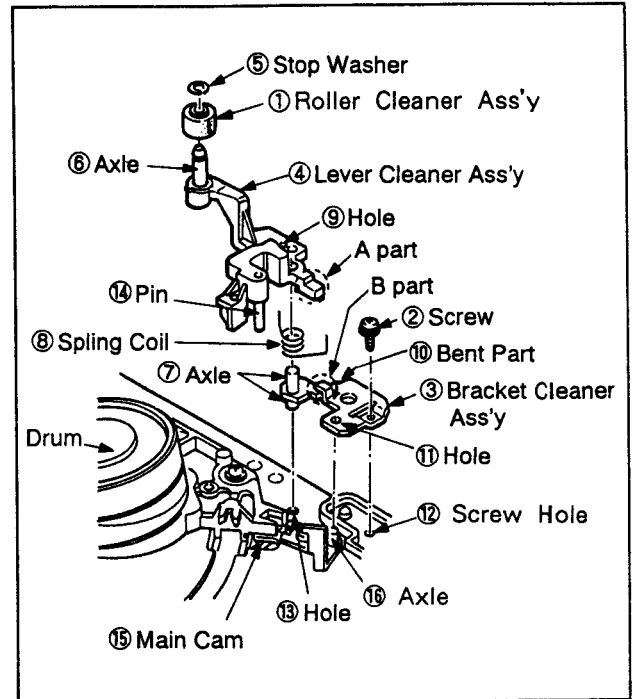
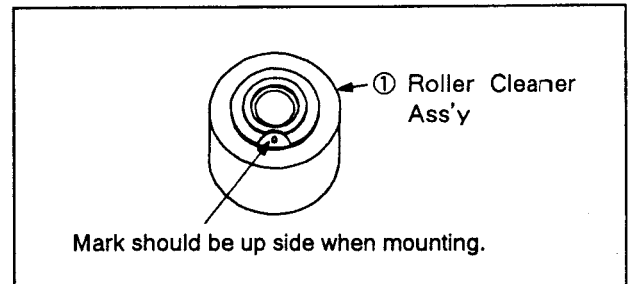
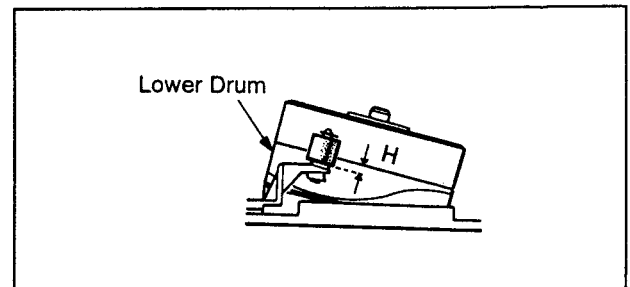

Fig. 4-13-1
Fig. 4-13-2
Fig. 4-13-3
5-13. AUTO HEAD CLEANER MECHANISM (See Fig. 4-13-1 • Fig. 4-13-2 • Fig. 4-13-3.)
- 1) Mount the ROLLER CLEANER ASS'Y ① and the stop washer ⑤ to the axle ⑥ of LEVER CLEANER ASS'Y.
Mount the ROLLER CLEANER ASS'Y ① so that the mark shown in Fig. 4-13-2 is up side. If the mark is down side, noise may occur.
- 2) Mount the SPRING COIL ⑧ and the LEVER CLEANER ASS'Y ④ to the axle ⑦ of BRACKET CLEANER ASS'Y. At this time, hook the SPRING COIL ⑧ to the hole ⑨ of the LEVER CLEANER ASS'Y and the bent part ⑩ of the BRACKET CLEANER ASS'Y. "A part" of the LEVER CLEANER ASS'Y should be under "B part" of the BRACKET CLEANER ASS'Y.
- 3) Fix the BRACKET CLEANER ASS'Y ③ on screw hole ⑫ by screw ②. Before fasten screw ②, insert hole ⑪ of the BRACKET CLEANER ASS'Y to axle ⑬, axle ⑦ to hole ⑬ to match positions. Pin ⑭ of the LEVER CLEANER ASS'Y should be run along the circumference of the MAIN CAM ⑮ not to be came off.